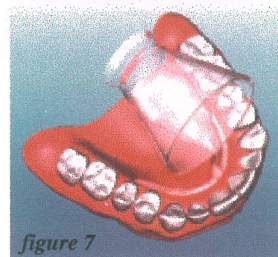

figure 7
7. Wet the *Fiber* and inside of the repair groove with a small amount of monomer. Fill the repair area with acrylic and cure it. See figure 7 & 8